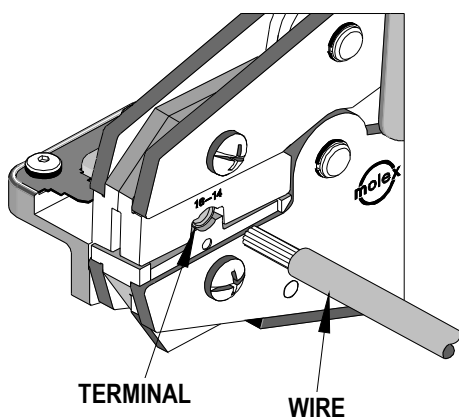

Figure 2
3. Partially close the tool to hold the terminal in place. See Figure 2.
4. Insert the properly stripped wire into the terminal barrel. See Figure 2 and 3. The wire's end should butt against the wire stop stamped into each terminal. Cycle the tool.